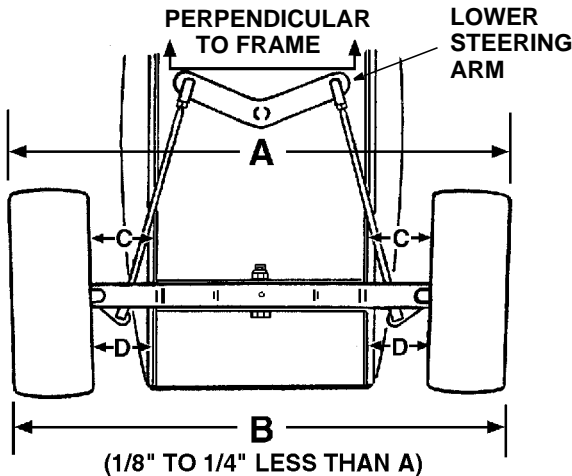

Figure 13
The front wheels should toe-in approximately 1/8 to 1/4 inch, as measured across dimensions A and B shown in Figure 13.
1. Check the lower steering arm to ensure it is perpendicular to the tractor frame (See Figure 13).
3. Rotate the wheels to position the marks at the front *horizontal* diameter of the wheels, then measure the distance between the marks and the bottom edges of the tractor frame channels (See measurement D in Figure 13). These two measurements should be equal.
4. While holding the steering arms to prevent the steering knuckles from moving, rotate the marks to the rear *horizontal* diameter. Measure the distance between the marks and the frame (See measurement C in Figure 13). Measurement D should be approximately 1/16 to 1/8 inch less than measurement C on each side of the tractor.